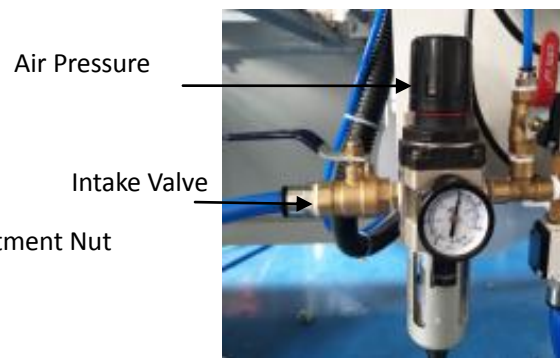

Figure 4.2
(4) Pneumatic device: As shown in Figure 4.2, the air pressure throat connected to the machine's air pipe, open the intake valve, and then rotate the air adjustment device, so that the air pressure maintained at 6kg / cm2 or more.